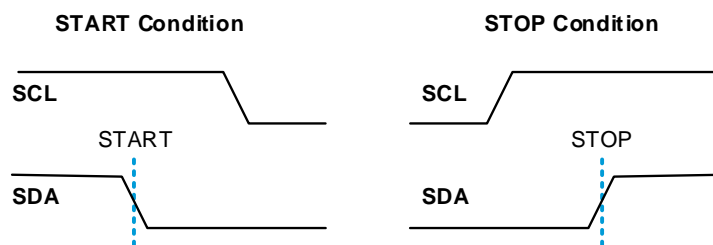

Figure 9. START and STOP Condition Waveform
The sensor transmission is initiated when the master sends a 0 START bit (S). The transmission is terminated when the master sends a 1 STOP bit (P). These bits are only transmitted while the SCL line is HIGH (see Figure 9 for waveforms).